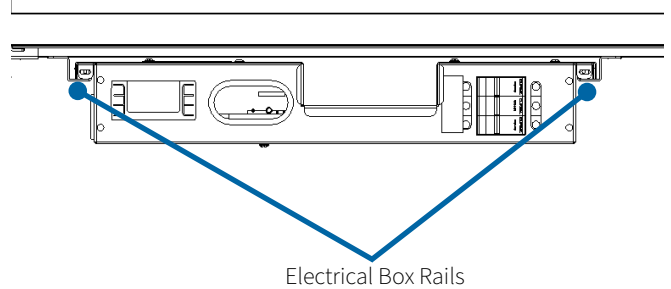

FIGURE 3I
8. Slide the electrical box back under the case ensuring that it is seated in the rails as per Figure 3I.